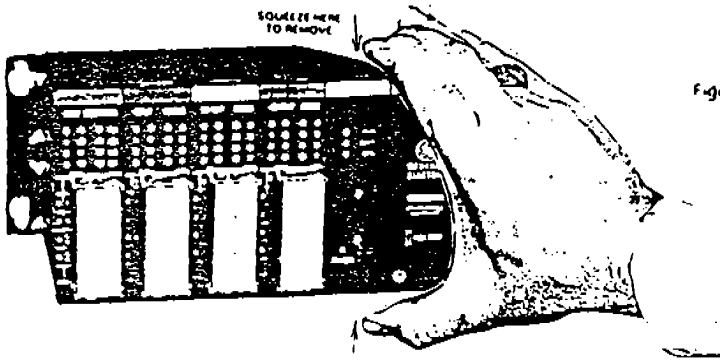

Figure 3
- C. Remove central processing unit (CPU) which is the module exposed after removing keyboard, the same way as the keyboard and pull CPU out of unit (see Figure 3).